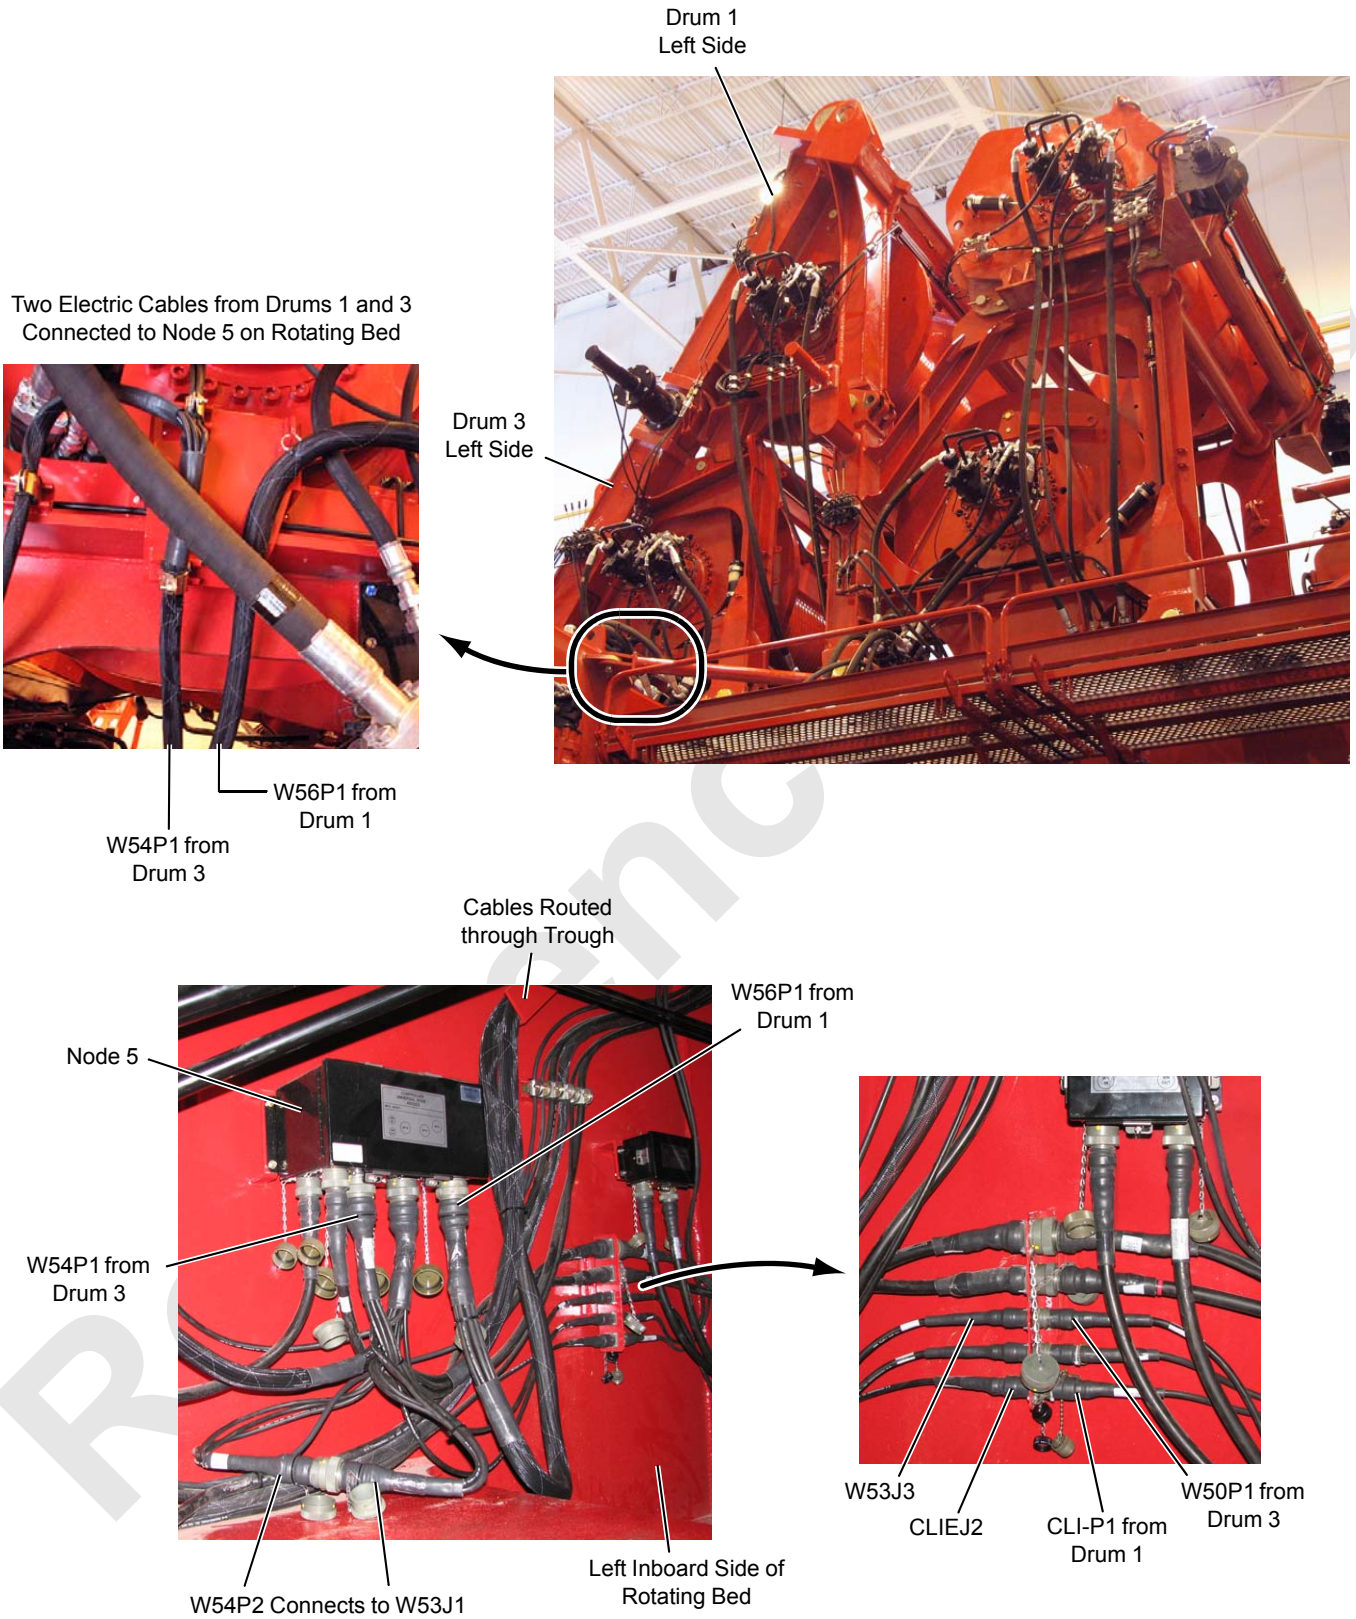

FIGURE 5-102
- Disconnect the electric cables between the drums and the rotating bed as shown in Figure 5-102.
Two Electric Cables from Drums 2 and 4 Connected to Node 7 on Rotating Bed Center Section (see Figure 5-102)
FIGURE 5-102 continued